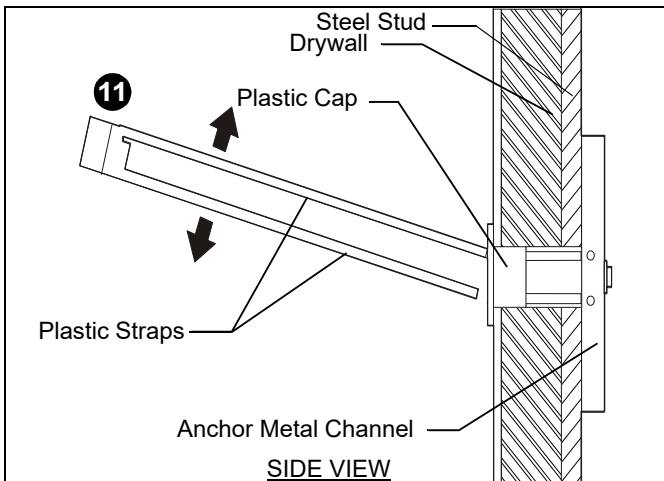

Figure 5
11. (Drywall/steel stud only) Snap off plastic straps on anchor at wall by pushing side to side, snapping off straps level with flange of plastic cap. (See Figure 5)